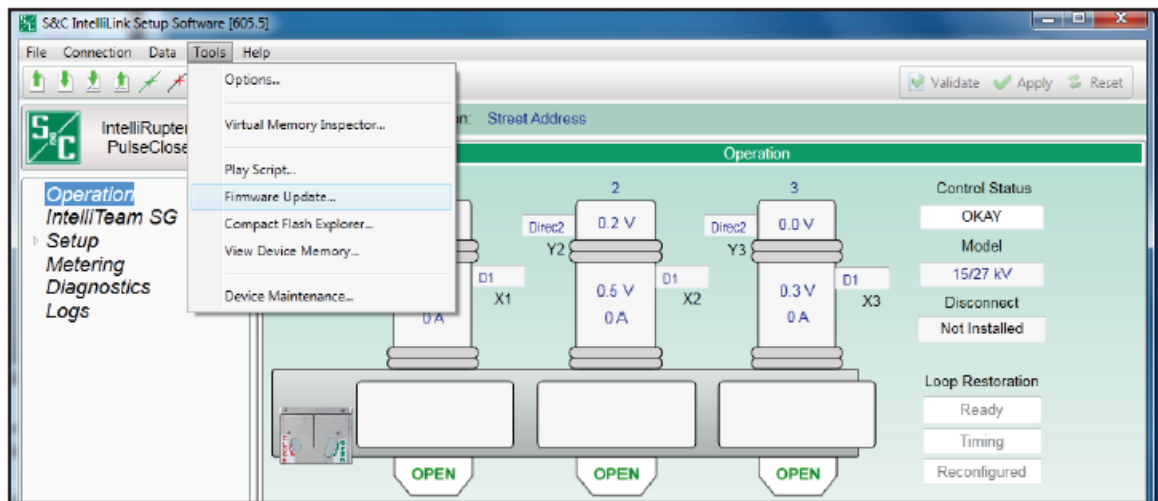

Figure 20. The menu selection Firmware Update... menu item.
- **STEP 1.** Connect with IntelliLink software. Select Tools>Firmware Update... menu item from the main menu. See Figure 20.